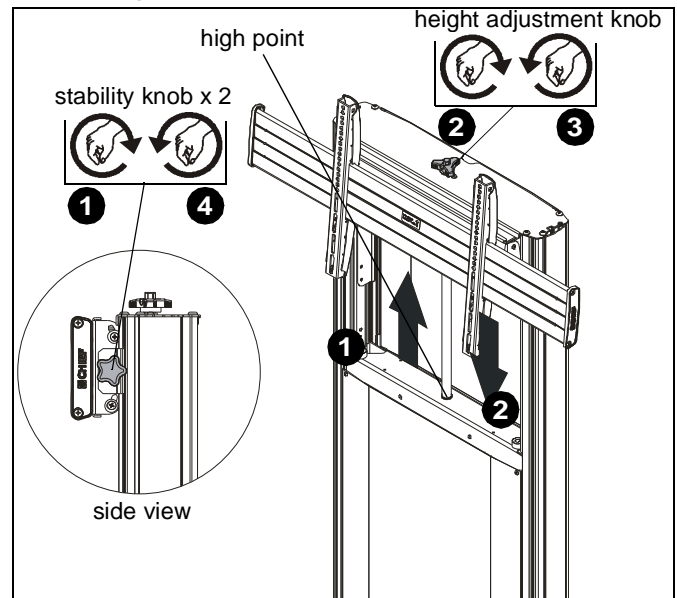

Figure 22
1. Loosen two stability knobs on either side of head assembly. (See Figure 22)
2. Turn height adjustment knob clockwise to raise display. (See Figure 22)
3. Turn height adjustment knob counterclockwise to lower display. (See Figure 22)
**WARNING:** Do not attempt to raise or lower the adjustment carriage beyond its upper or lower limit. High and low points are shown in Figures 22 and 23.
4. Tighten two stability knobs on either side of head assembly. (See Figure 22)